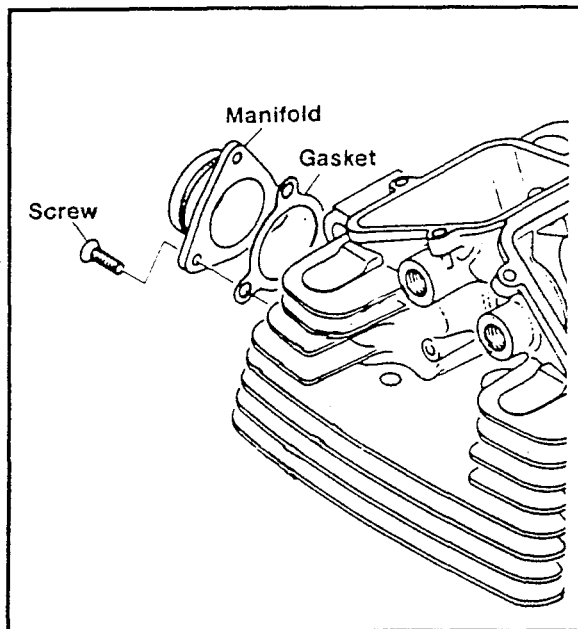

Figure 3-12. Intake Manifold and Gasket
5. See Figure 3-13. Loosen hose clamps (56). Compress airbox boot to make room to remove carburetor. Pull carburetor free of manifold (Fig. 3-12).
1. See figure 3-12. Place the manifold and gasket in position on the cylinder head.